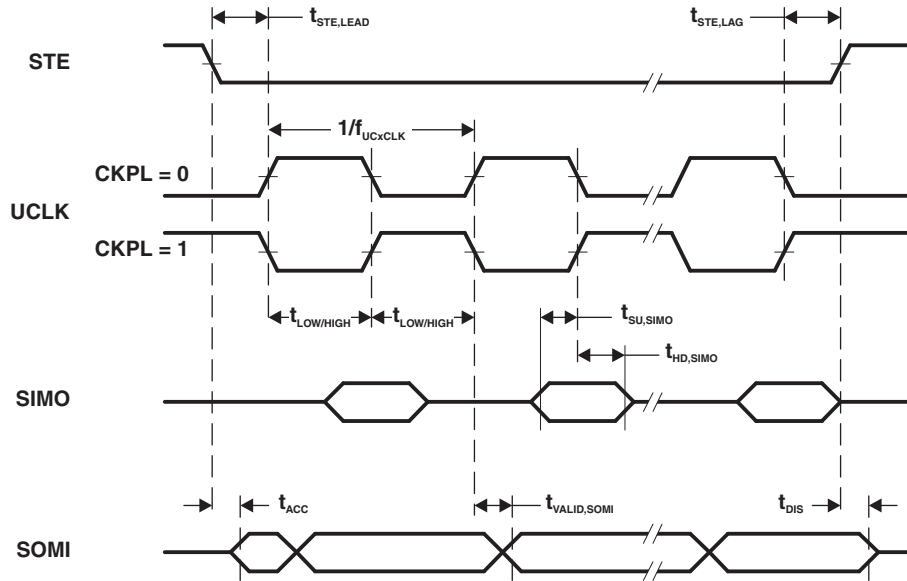
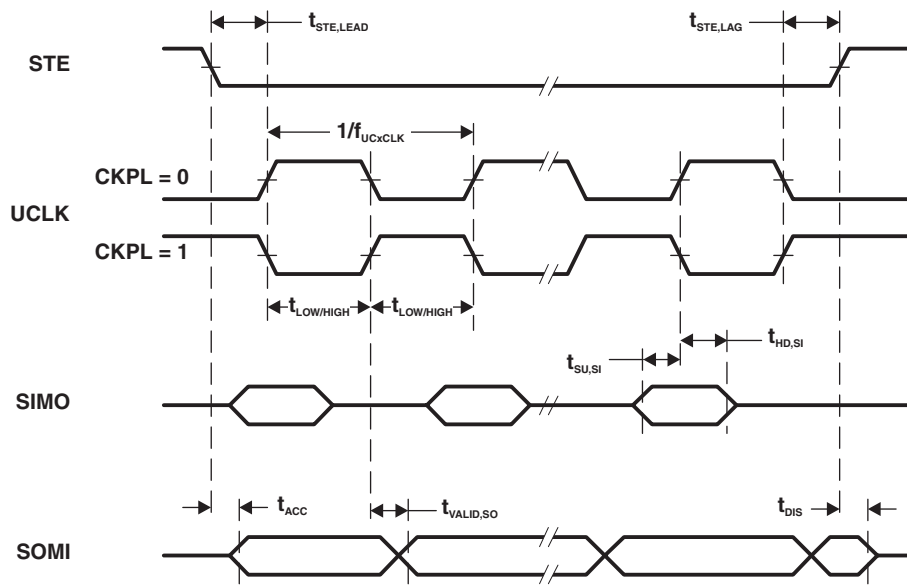

Figure 5-11. SPI Slave Mode, CKPH = 0
Figure 5-12. SPI Slave Mode, CKPH = 1
(1) $f_{UCxCLK} = 1/2t_{LO/HI}$ with $t_{LO/HI} \geq \max(t_{VALID,MO(Master)} + t_{SU,SI(eUSCI)}, t_{SU,MI(Master)} + t_{VALID,SO(eUSCI)})$.For the master parameters $t_{SU,MI(Master)}$ and $t_{VALID,MO(Master)}$ refer to the SPI parameters of the attached slave.(2) Specifies the time to drive the next valid data to the SOMI output after the output changing UCLK clock edge. Refer to the timing diagrams in Figure 5-11 and Figure 5-12.(3) Specifies how long data on the SOMI output is valid after the output changing UCLK clock edge. Refer to the timing diagrams in Figure 5-11 and Figure 5-12.